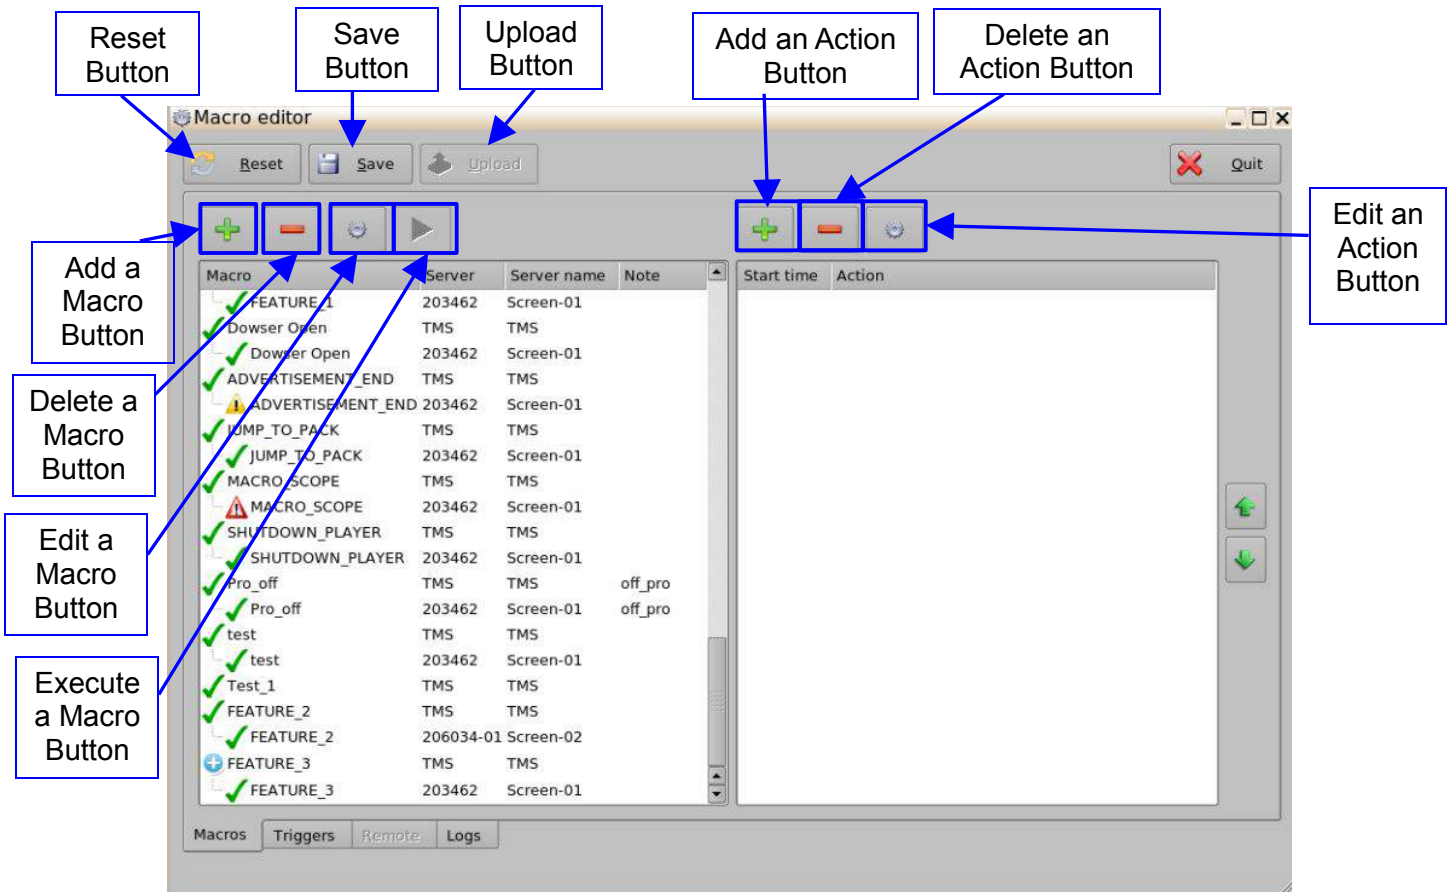

Figure 9: Macro Editor Window
- Click on the Add button (Figure 9).
- Click on the Upload button (Figure 9).
- Click on the Reset button (Figure 9).
- Click on the settings button or double click on the Macro itself (Figure 9).
- Click on the Save button to save the settings applied to the Macro (Figure 9).
- Click on the Delete button to delete the selected Macro (Figure 9).
- Click on the Save button when finished (Figure 9).
- Click on the Execute button to execute the selected Macro (Figure 9).
- Click on the Add an Action button on the right side of the window (Figure 9).